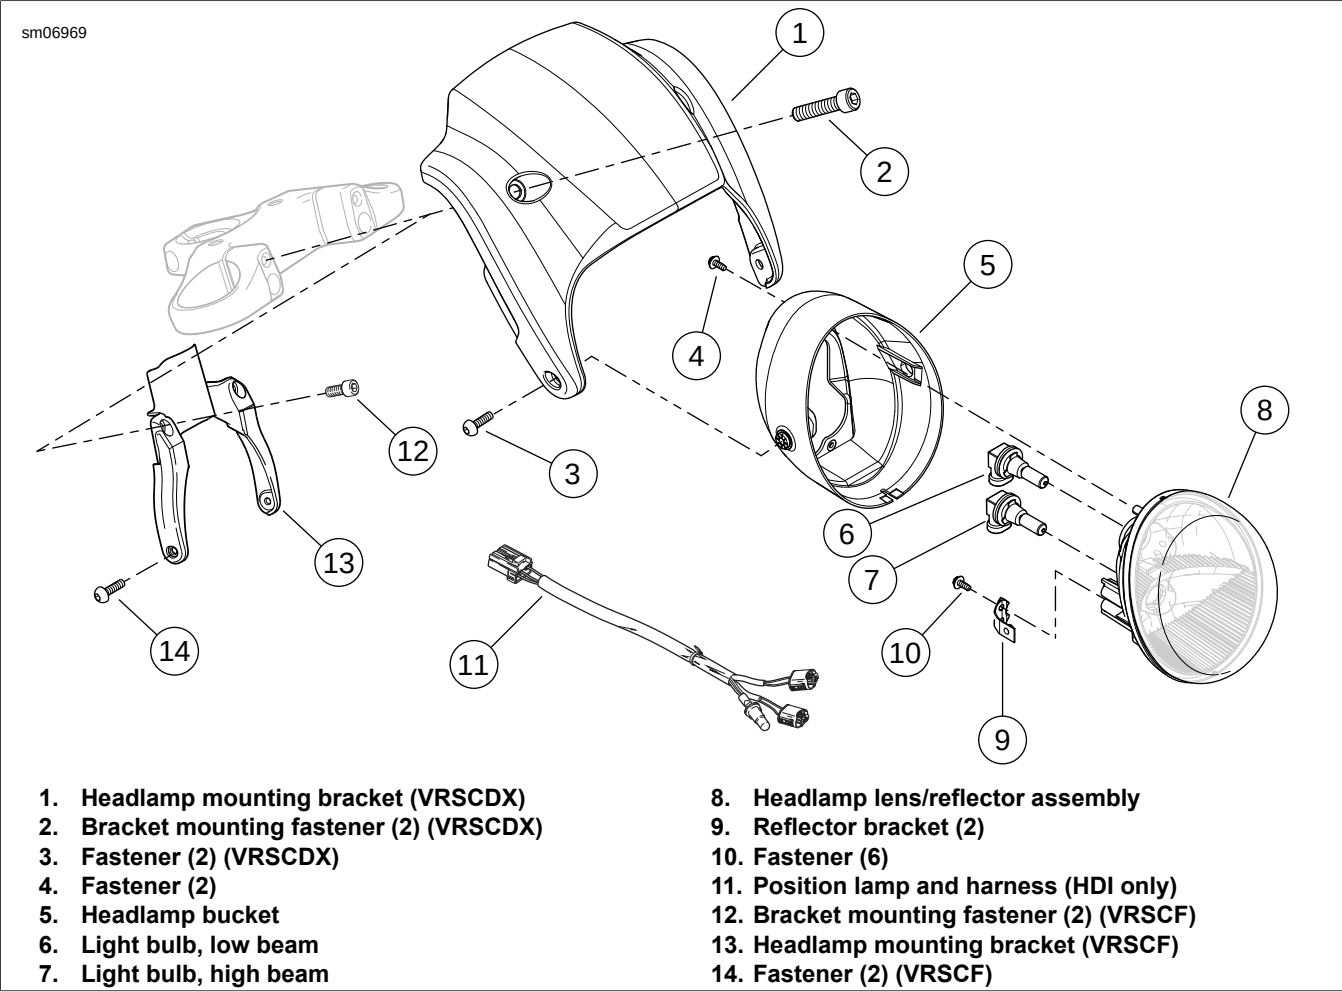

Figure 7-16. Headlamp
1. See Figure 7-16. To install a **new** headlamp bulb, insert it into the hole in the rear of the headlamp.
2. Rotate the bulb clockwise (CW) approximately 45 degrees, until it stops.